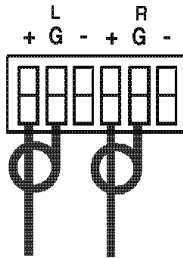

Figure 8: Connecting the Unbalanced Stereo Audio Output
- An unbalanced audio input (see Figure 8)
Figure 8 illustrates how to wire an unbalanced acceptor to the balanced output of the unit: